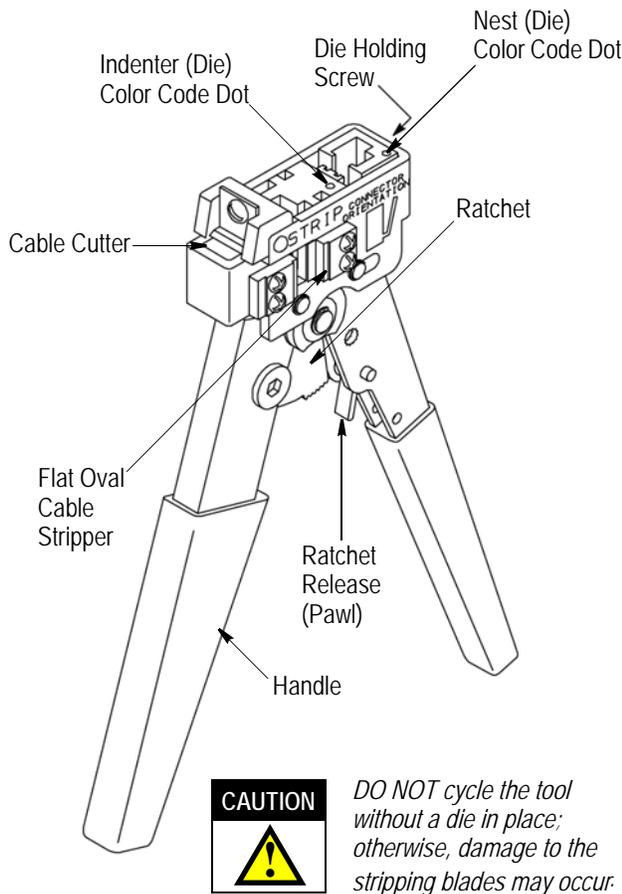

Figure 1
Modular Plug Hand Tools 231652-[ ] (shown in Figure 1) are designed to terminate modular plug connectors onto stranded or solid, shielded or unshielded flat oval cable or round cable. The tool also cuts and strips unshielded flat oval cable. Other cable must be prepared by separate tools.
**2. DESCRIPTION (Figure1)**